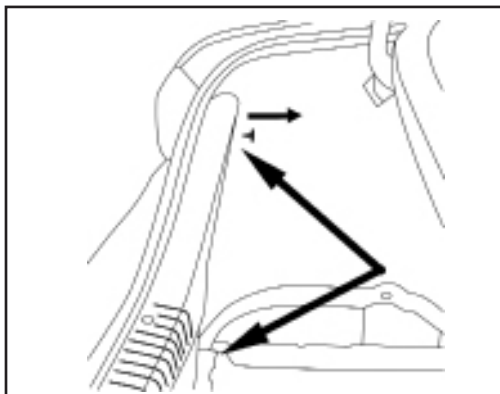

Fig. 2
6. Remove the 2 push-pin retainers for each side of the trunk sill plate. (Fig.2) The push-pin retainers will not be needed after this step.